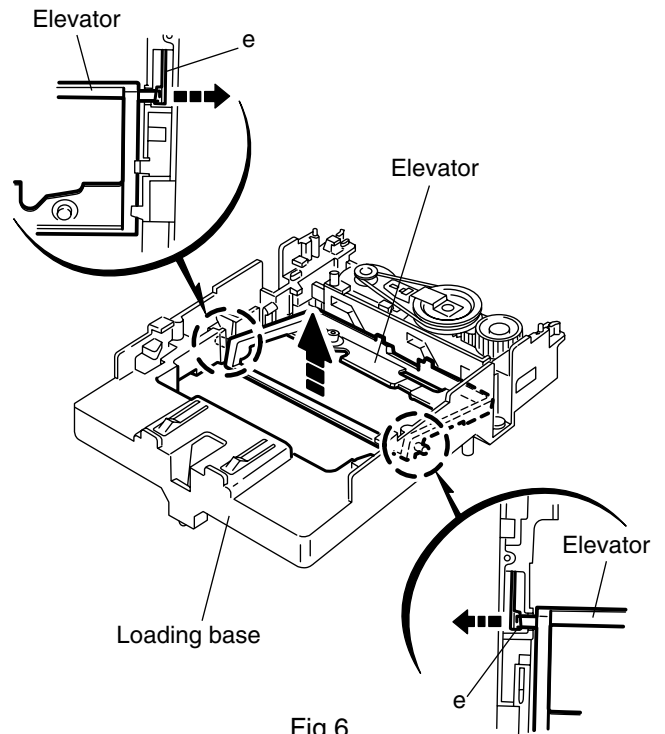

Fig.6
■ Removing the front panel assembly (see Fig.6,7)
■ Removing the elevator (See Fig.6 and 7)